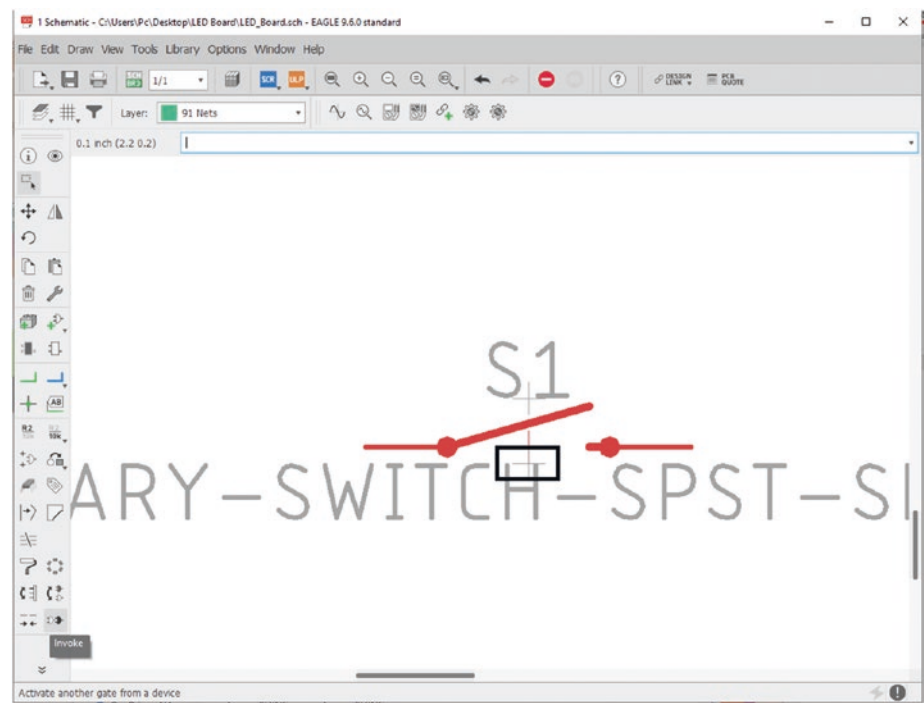

Figure 5-31. Right-click the “+” next to the button’s name
18. If the Properties window you are seeing is not correct, try right-clicking the switch near the “+” symbol; you should see this menu. Make sure you try and right-click the bottommost “+” symbol. See Figure 5-31.